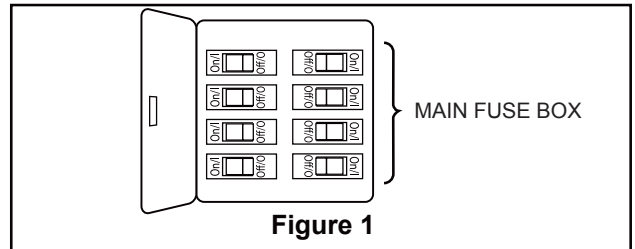
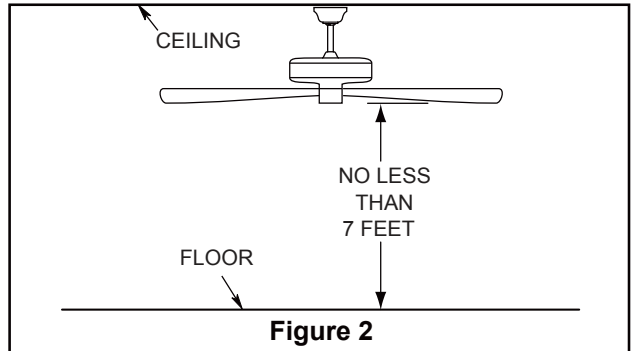
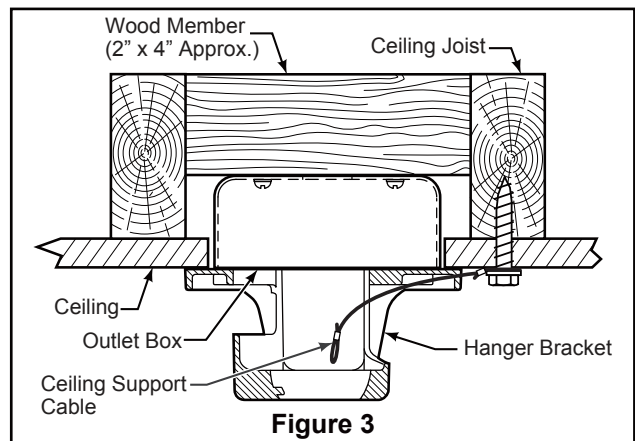

Figure 1
Figure 2
Figure 3
Your new ceiling fan will require a grounded electrical supply line of 120 volts AC, 60 HZ, 15 Amp Circuit. Electrical code requires use of a fan-rated outlet box to support the extra weight and motion associated with a ceiling fan. A fan-rated box will be labeled as such and typically supports up to a 70lb ceiling fan. Fan-Rated Outlet Boxes vary in ratings and design. Ensure the ratings of your ceiling fan outlet box meet the requirements for the ceiling fan being installed. Figure 1, Figure 2 and Figure 3 depicts different structural configurations that may be used for mounting the outlet box.
### Low profile usage diagram idea (Figure 1)
### Deeper profile usage diagram idea (Figure 2)
### Brace use (Figure 3)
1. Cut off excess lead wire approximately 6 to 9 inches above top of the downrod. Strip 1/2 inch from the end of each lead insulation off wire. (Figure 1)
2. Remove one of the two shoulder screws in the hanger bracket and retain the screw for later. Loosen the second shoulder screw without fully removing it. (Figure 2)
To avoid possible fire or shock, be sure electricity is turned off at the main fuse box before hanging. (Figure 1)
The fan must be hung with at least 7' of clearance from floor to blades. (Figure 2)
1. Securely attach the hanger bracket to the outlet box using the outlet box screws and washers supplied with the outlet box. (Figure 3)
2. Drill a 1/4" pilot hole into the building structure to prevent splitting or cracking with installation of the lag bolt. Using the 3/8" x 2" lag bolt and flat washer, attach safety cable to ceiling joist or wood structural member. The lag bolt will pass through the flat washer, safety cable loop, and into the building structure. (Figure 3)
**NOTE:** Ceiling support cable cannot be secured to outlet box only, it must be directly secured to ceiling joist or structural member using the 3/8" x 2" lag bolt and flat washer. (Figure 3)
1. To set the code on receiver unit, slide dip switches to the same positions as set on the remote. (Figure 1)
To avoid possible electrical shock, be sure electricity is turned off at the main fuse box before wiring. (Figure 2)
2. Slide the receiver into the hanger bracket before wiring as shown in figure 3.
- 2. Securely attach and tighten the canopy screw cover over the shoulder screws in the hanger bracket utilizing the keyslot twist-lock feature. (Figure 2)
2. Assemble the light plate assembly to the motor assembly support bracket using the two key slots in the light plate assembly. Replace the previously removed screw and securely tighten all three screws. (Figure 2)
3. Remove one of the three screws in the light plate assembly and retain the screw for later. Slightly loosen the remaining two screws. (Figure 3)
- 2.** Restore electrical power to the outlet box by turning the electricity on at the main fuse box. (Figure 2)
- 3.** To make fan operational, install 23A/12V battery (included) in hand-held remote transmitter, with fan power off. Then follow the remote code setting process. (If not used for long periods of time, remove battery to prevent damage to transmitter). Store the remote away from excessive heat or humidity. (Figure 3)